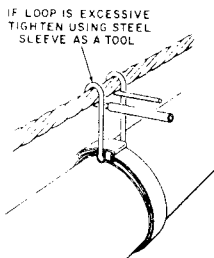

Fig. 17—Bending Wire Around Strand
- (2) Using a steel sleeve or a C socket wrench, bend the wires around the strand and inside the vertical portion of the wire, as shown in Fig. 17, and tighten the loop.